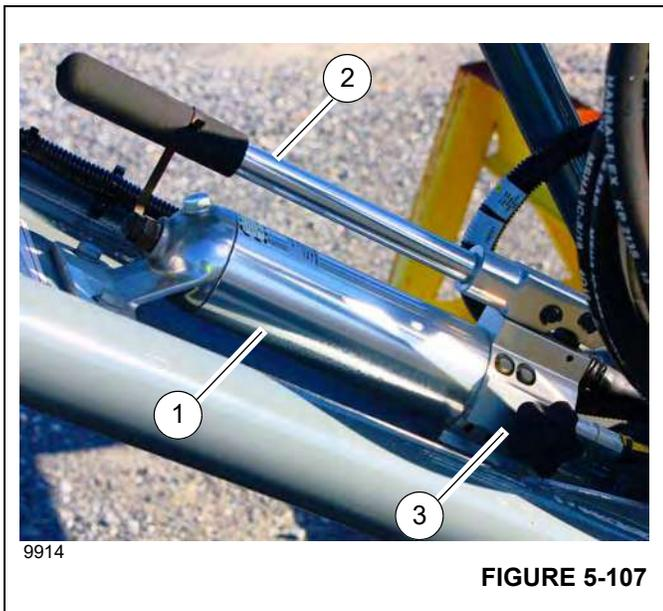

FIGURE 5-107
17. Install four pins (5), (Figure 5-78) and retaining clips (6) to secure the boom extension to the boom nose. If necessary, use the jack (1), (Figure 5-107) to install the fourth pin: